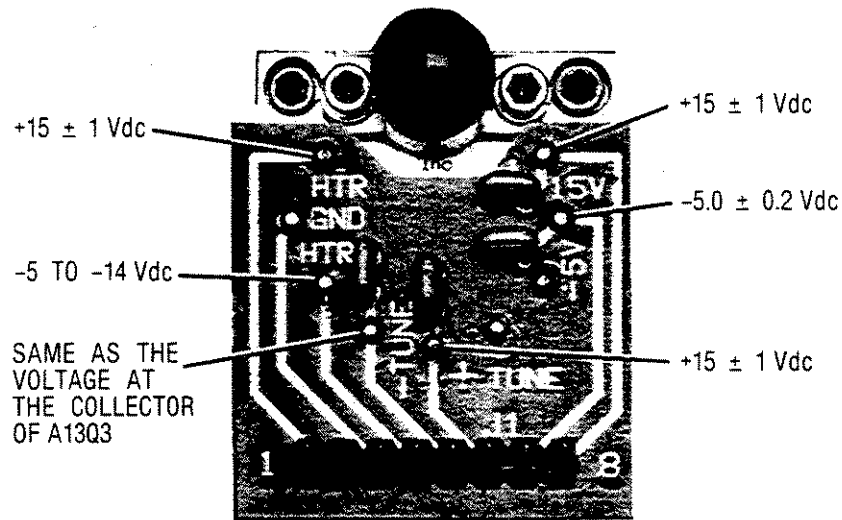

Figure 8-46. First LO Voltages at A17A1 YIG Interface Board Assembly
5. Using A13TP8 as ground, verify the connection to the YIG Oscillator by measuring the voltages as shown in Figure 8-46.